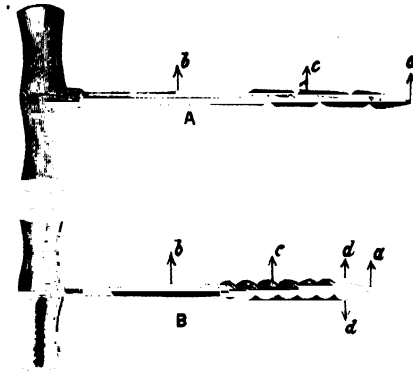

Fig. 110.
**The Gimlet.**--This tool (Fig. 110) is used for boring holes in wood. The point, (a), is shaped like a screw and the "shank", (b), has cut in it a